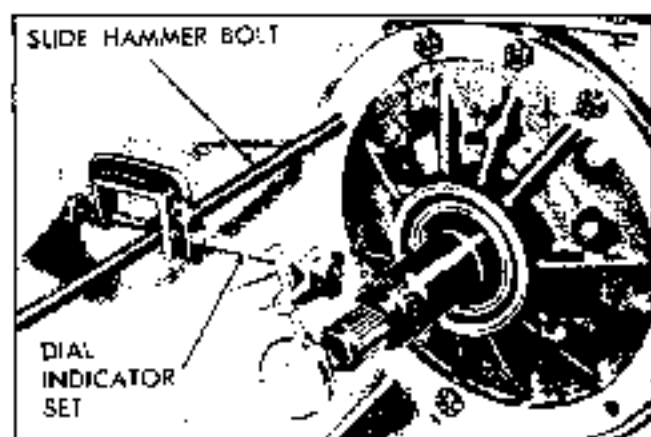

Fig. 7F-100 Checking front unit end play
6. Refer to chart (Fig. 7F-101) and select correct thickness of thrust washer to establish a running clearance of .008"-.034" (if end play is more than .051" with .097" thrust washer installed, check for excessive wear of assembled parts or omitted thrust washers, races or bearings in or behind planet carrier).